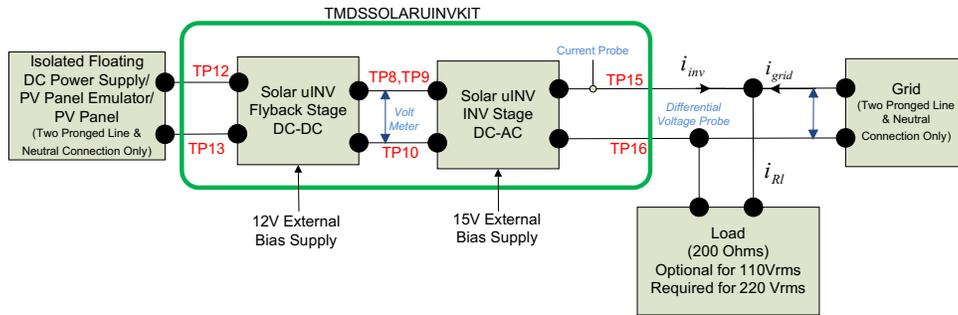

Figure 3. Solar Micro Inverter Kit Demo Setup
- Verify the jumper cable is connected between TP8 and TP9 to connect the DC-DC stage output to the DC-AC stage input as shown in Figure 3.
- Connect a voltmeter across the DC-BUS, such as the DC-DC stage output or the DC-AC stage input (TP8, TP9: VBUS) and the ground (TP10: GND_SEC), also shown in Figure 3. Set the voltmeter to measure DC voltage (range: 200- to 400-V DC).